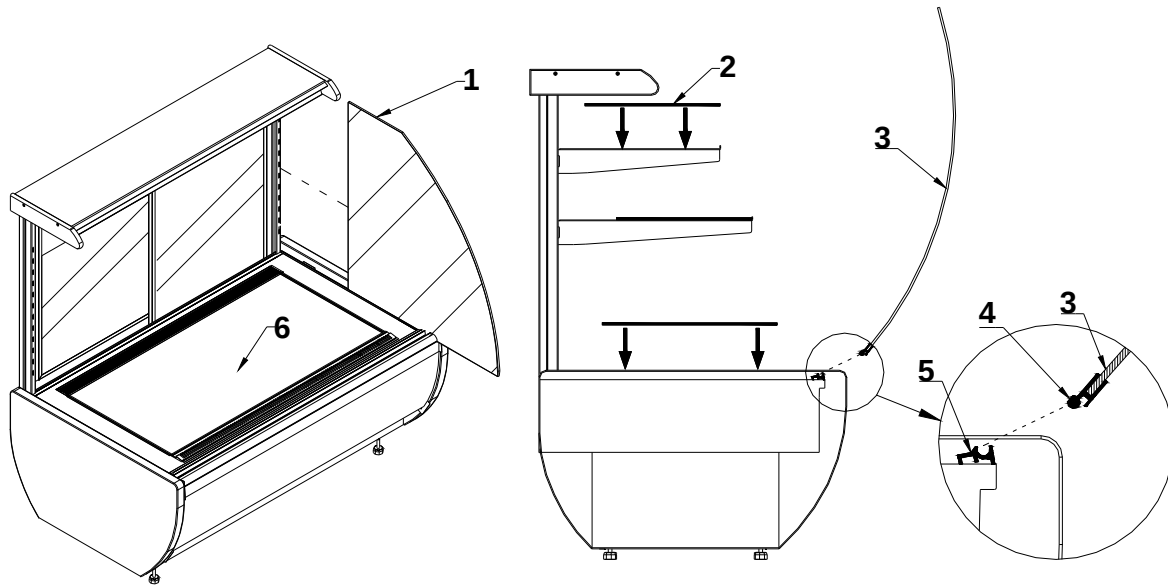

Fig.5 Assembly of glass elements
2. Fix glass shelves on the frame and on inner top Fig.5/2 \(p. 8\)